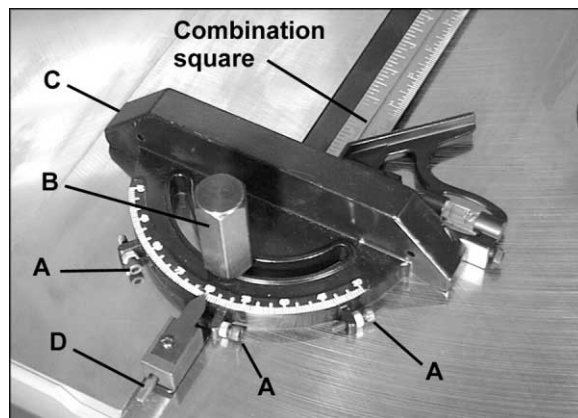

Figure 17
- The miter gauge is equipped with individually adjustable index stops at 90 degrees and 45 degrees right and left. The index stops can be adjusted by loosening the hex nuts and turning the three adjusting screws (A, Figure 17) as needed. After setting each stop, retighten the hex nut.
- To operate the miter gauge, loosen lock handle (B, Figure 17) and move the body of the miter gauge (C, Figure 17) to the desired angle. The miter gauge body is set to stop at 0 degrees and 45 degrees left or right. To move the miter gauge beyond these points, the stop rod (D, Figure 17), must be pulled out.
- If accurate crosscutting work is to be done using the miter gauge, check its squareness to the slot with a square as shown in Figure 17. Re-adjust the stop position as required.